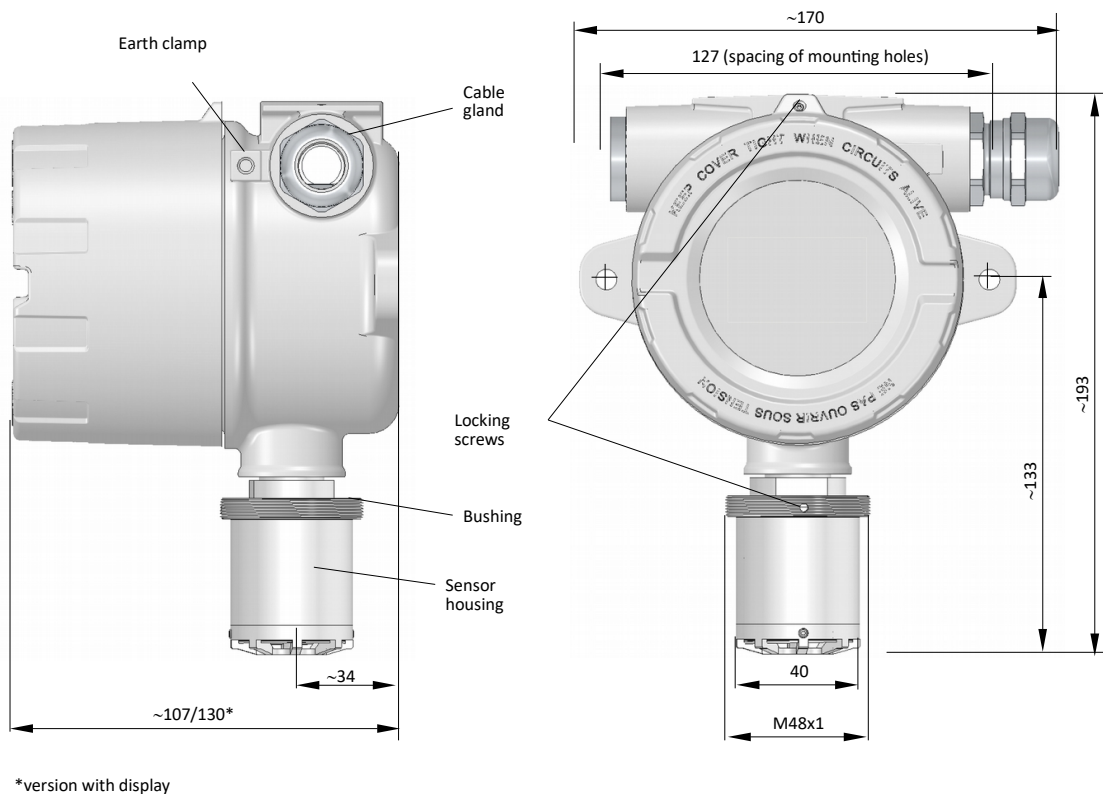

Figure 4: The construction of the device and its dimensions
-  The recommended position for the detector operation is the position with its measuring head looking down (see Figure 4). Other mounting positions may compromise IP class of the device.